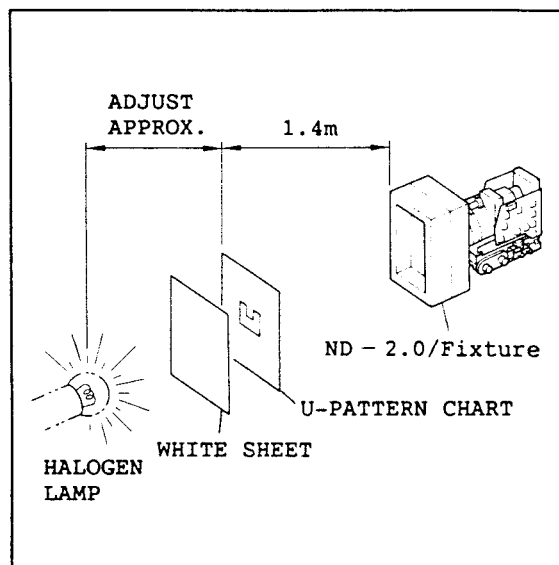
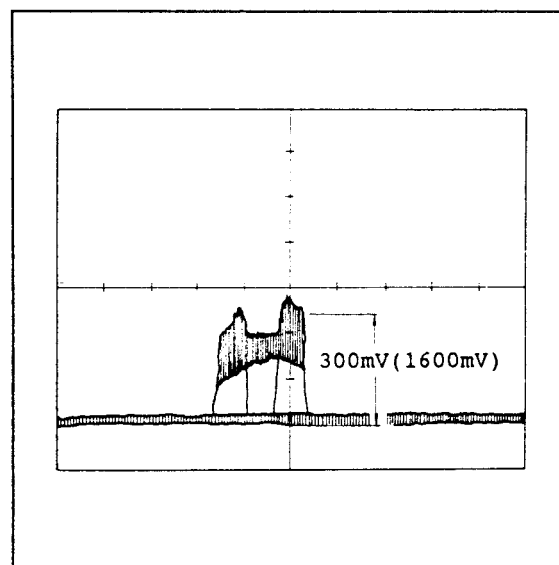

Fig. II-45
Fig. II-46
- (2) Attach the ND-2.0 filter on the front face of lens with the fixture.
- (3) Make a U-pattern chart. Then, attach a thin white paper on its rear side.
- (4) Set the U-pattern chart as shown in the Fig.II-45.
- (5) Shoot the U-pattern chart with a standard angle of view.
- (6) Locate the halogen light so that the signal level at TP2101 becomes 300 mV. At this time, adjust the angle of halogen light so that the waveform in the Fig. II-46 is obtained.